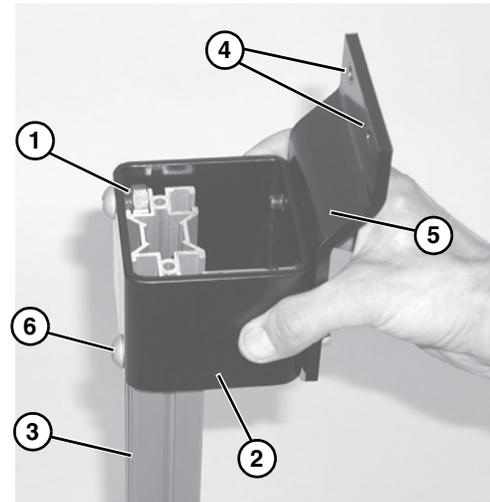

Figure 10
- Align hex nuts (**Figure 10, item 1**) on leg support (**Figure 10, item 2**) to t-slots at top, outside of stand leg (**Figure 10, item 3**). Slide leg support down stand leg until conveyor mounting holes (**Figure 10, item 4**) on pivot bracket (**Figure 10, item 5**) are approximately the same height as the lower t-slots on conveyor. Tighten button head screws (**Figure 10, item 6**) just enough to keep leg support in position.
Failure to secure screws (**Figure 10, item 6**) may cause conveyor sections to drop down causing severe injury.
TIGHTEN SCREWS (Figure 10, item 6**) AFTER ADJUSTMENT.**
20. Tighten four button head screws (**Figure 10, item 6**) to 17 ft-lb (22.5 N-m).